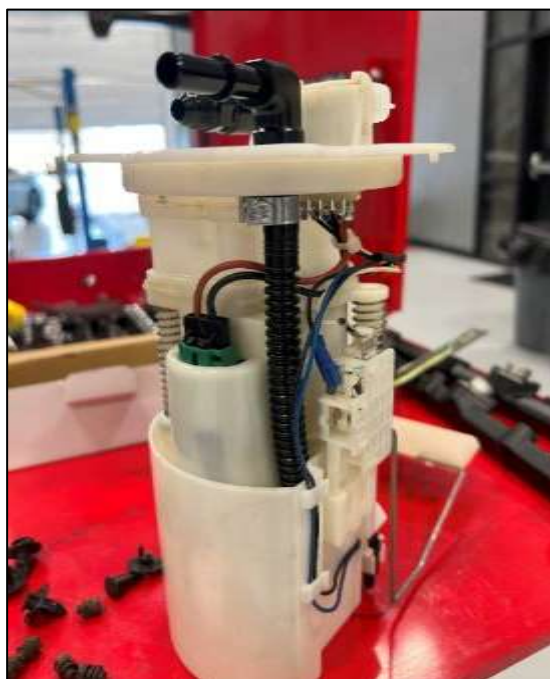

Figure 17
30. With the other screw clamp on the end, attach the other end of the PTFE Fuel Tube to the Bulkhead Fitting installed in the previous step. *Figure 17.*